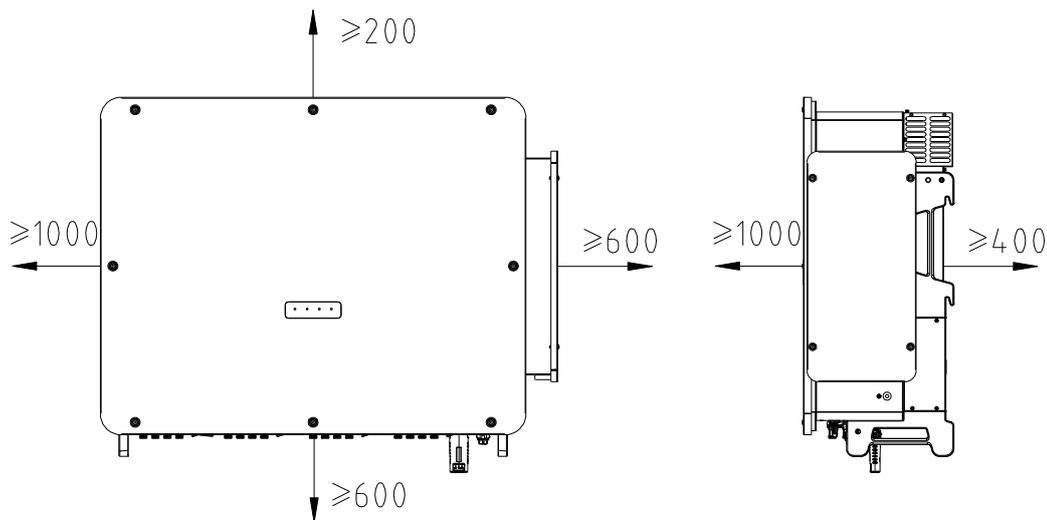

FIG 3-3 Single inverter installation space
- 1) Ensure ample clearance surrounding the inverter to accommodate adequate heat dissipation ( as shown in FIG 3-3 The maintenance of the inverter's external fan module requires a larger clearance on the left side).